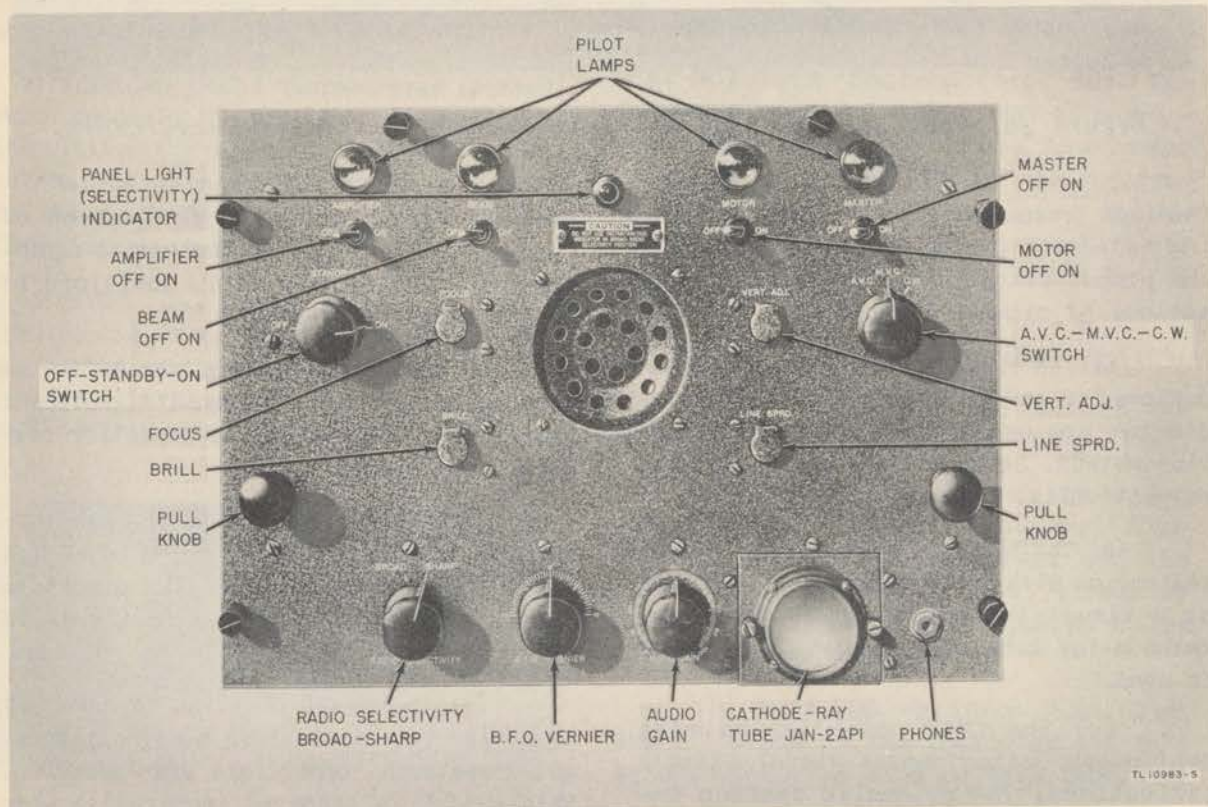

Figure 41. Power indicator of Radio Receiver Assembly R-128/CRD-3.
(6) Manual operation of the GONIOMETER INSIDE dial permits reading of azimuth when the null and matched-line methods are used.
(7) GONI. GAIN (R417) is a slotted screw adjustment which allows varying of the amplification of the directional channel amplifier. Presetting of this control balances the gain of the goniometer channel for the various modes of operation thus permitting switching from matched-line indication to automatic azimuth indication without readjustment of the R.F. GAIN control.
(8) DIM control (R439) dims or extinguishes the receiver dial lamps.
(9) Balanced modulator adjustment (R427) adjusts the screen voltage supply to the balanced modulator tubes (V108 and V109) to balance their amplification. It is located on the top right-hand side of the chassis approximately 6 inches from the front panel.
b. Power Indicator Section (fig. 41). The following controls except those of subparagraphs (17) and (18) are located on the front panel of the power indicator of the receiver assembly.
(1) OFF-STANDBY-ON switch (S205) controls the power input to the receiver as follows: